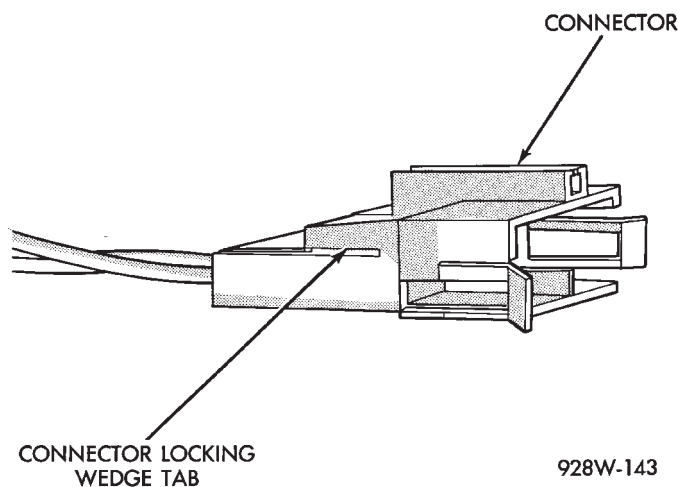

Fig. 21 Connector Locking Wedge Tab (Typical)
- (1) Disconnect battery.
- (2) Disconnect the connector being repaired from its mating half. Remove connector locking wedge, if required (Fig. 21).
- (3) Remove connector locking wedge, if required (Fig. 21).